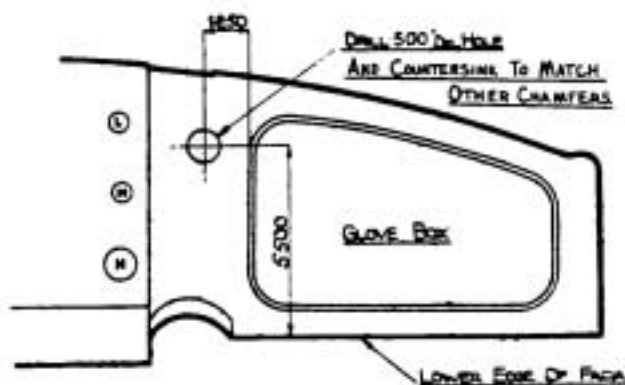

FIG.1. DRILLING INSTRUCTIONS FOR FACIA PANEL.
1. Mark off and drill the fascia panel to the dimensions given in Fig.1.